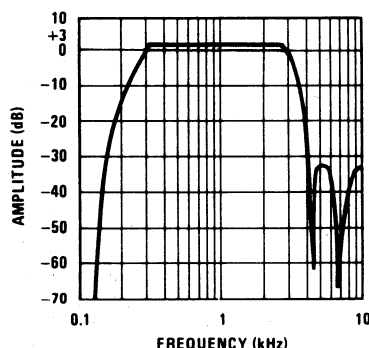
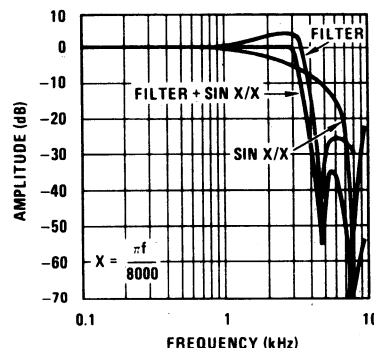
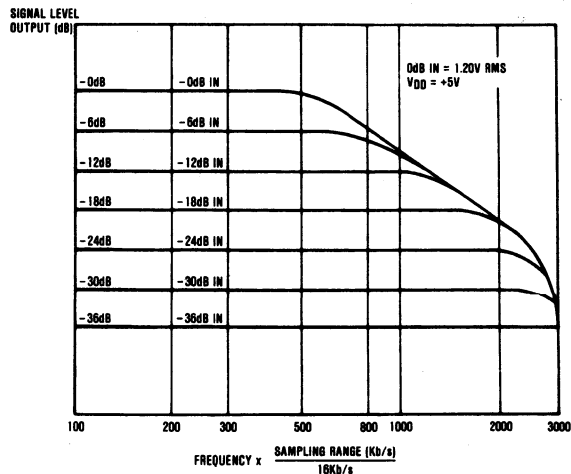
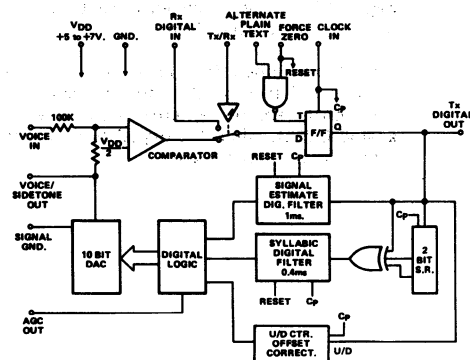

FIGURE 1A. TRANSMIT FILTER STAGE
FIGURE 1B. RECEIVE FILTER STAGE
FIGURE 2. TRANSFER FUNCTION FOR CVSD AT 16KB
Figure 3 — HC-55564 CVSD Functional Diagram
The process of converting filtered voice information into a digitized pulse train format begins with sampling the voice signal at uniform intervals. These intervals are determined by the Nyquist Sampling Theorem, which simply states that any signal may be completely re-constructed from its representative sampling, if it is sampled at least twice the maximum frequency of interest. The telephone system, being a worldwide standard 8kHz sampling system, satisfies Nyquist, as all voice signals are band-limited to 4kHz. When the voice waveform is sampled, a train of short pulses is produced, each representing the amplitude of the waveform at the specific instant of sampling. This process is called Pulse Amplitude Modulation (PAM). The envelope of the PAM samples replicate the original waveform. Figures 1A thru 1D illustrate representative PAM samples for up to 24(30) individual voice channels in a μ -Law (A-Law) telephone system.
The transmit and receive filter responses are shown in Figures 1A and 1B. The transfer characteristic of the CVSD is illustrated in Figure 2. A suggested circuit configuration is shown in Figure 3.
The HC-5512C filter is configured such that it utilizes a 2.048MHz clock for the switched capacitors. A 16kHz or 32kHz sampling clock for the CVSD is easily derived as shown in Figure 3. A 32kHz sampling clock is recommended to enhance noise performance, frequency response, and dynamic range of the CVSD. For the circuit as shown the audio signal into the CVSD should be 1Vp-p over the 3.2kHz band to obtain a flat response. As can be seen from Figure 2, for lower frequency signals, higher signal levels can be used. However, an external compensation network is required to flatten the inherent SINX/X output response of the receive filter stage (see Figure 1B). R_A , R_B and C_A form a simple lead lag filter at the output of the receive filter in the HC-5512C. This introduces a pole at 1kHz and a zero at 3.3kHz in order to give some degree of compensation against the filter's SINX/X characteristics.
The CVSD: A popular effective scheme for companded delta modulation is known as CVSD (continuously variable slope deltamod) shown in Figure 2. Additional digital logic, a second integrator, and an analog multiplier are added to the simple modulator.
Delta modulated data is in a form which can be digitally filtered with fairly simple circuitry. A compatible CVSD can be made using digital integrators and multipliers driving a digital-to-analog converter. The block diagram of the Harris HC-55564 monolithic CVSD is shown in Figure 3.
The CMOS digital circuit functions of Figure 3 closely parallel the equivalent analog function in Figure 2. The filters are single pole recursive types using shift registers with feedback. A digital multiplier feeds a 10 bit R-2R DAC which reconstructs the voice waveform. The DAC output is in steps, rather than ramps.